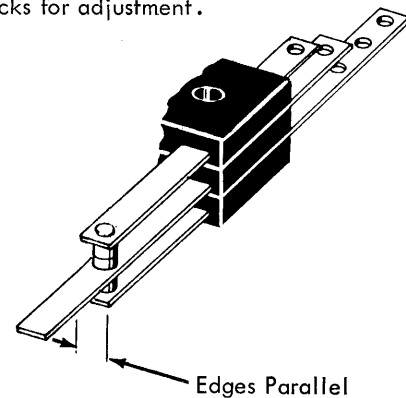

FIGURE 40. Contact Stacks
1. Contact Stacks (Fig. 40) - Align so that the strap edges are parallel. Loosen mounting screws and shift contact blocks for adjustment.